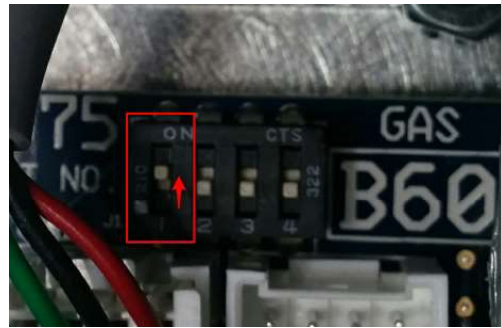

Figure 215: DIP Switch Setting
4. The last module in the chain needs to have the #1 DIP switch set to “ON” (Figure 215). Refer to the module ID label.
3. The last module in the chain needs to have the #1 DIP switch set to “ON” (See Figure 215). Refer to the module ID label.